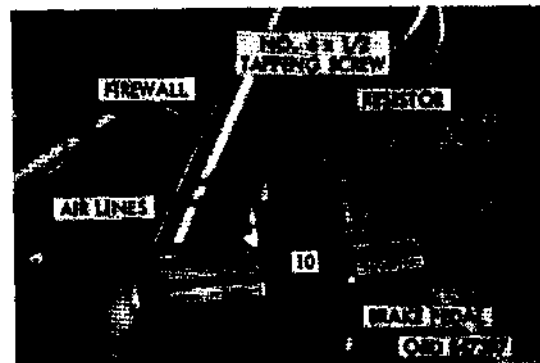

Figure 608. Resistor installed
- (2) Hold the resistor approximately 10 inches above the floor and just to the right of the air lines—ad mark location of the two mounting holes on firewall. Drill two 3/32-inch holes. Secure the resistor to firewall with two No. 6 x 1/2 tapping screws (fig. 608).